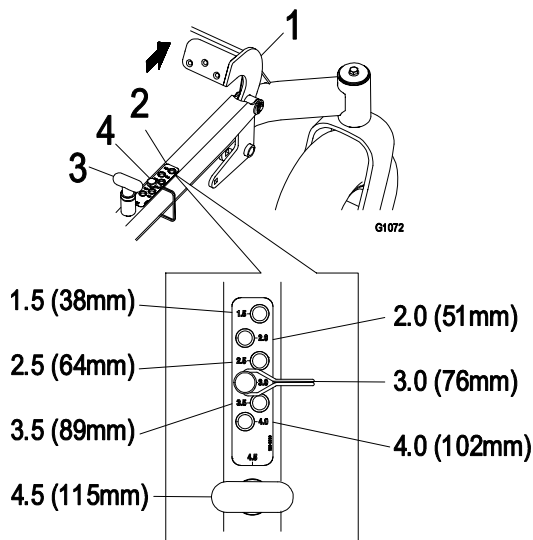

Figure 15
1. Raise the deck to the transport position (4.5" cut height) by pushing the foot actuated lever forward (Figure 15). The spring loaded transport pin will automatically engage and will click into place.